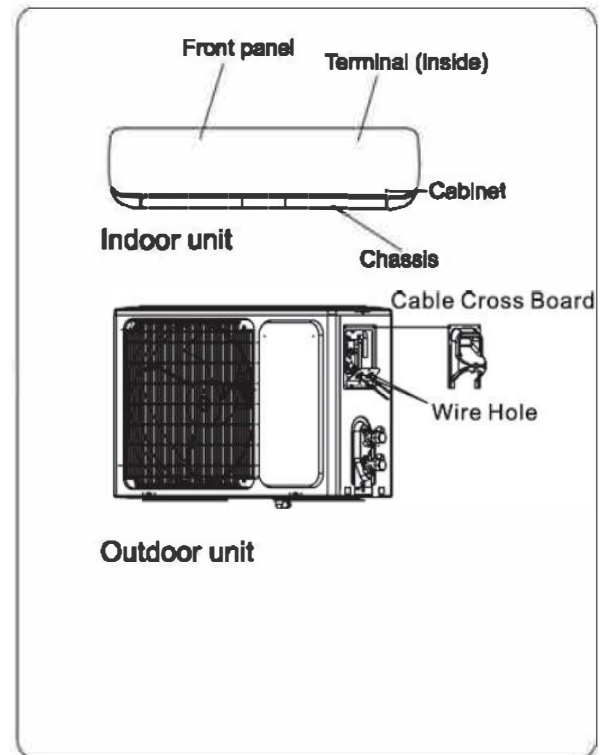

Figure E.2
1. Remove the cable cross board from the unit by loosening the screw. Connect the wires to the terminals on the control board individually per circuit diagram posted on inside of access door. Refer to Figure E.2.